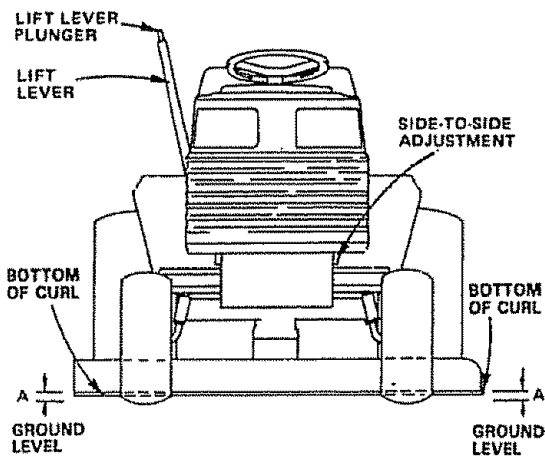

FIGURE 37
- b. Measure height from bottom of curl to ground level at front of mower. Distance "A" should be the same on both sides of mower (Fig. 37).